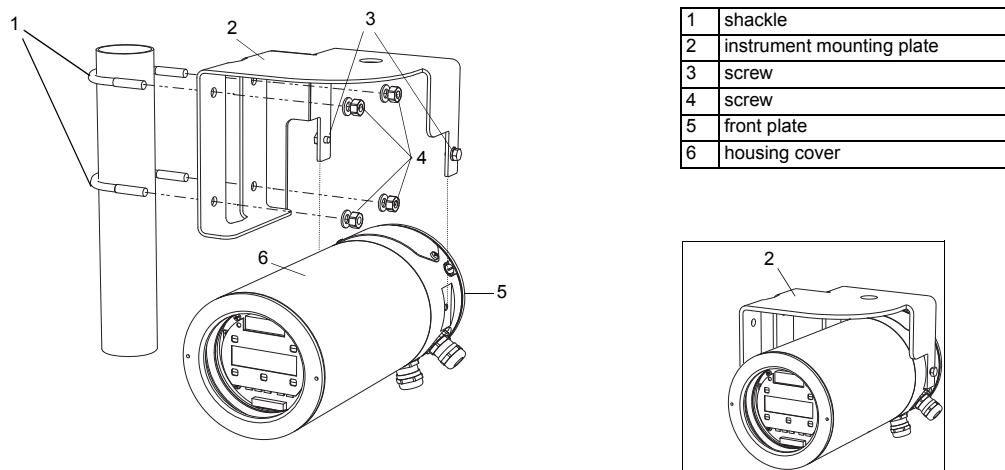

Fig. 8.1: Pipe mounting kit
- Fix the instrument mounting plate (2) to the wall with the 4 screws (4) (see Fig. 8.1).
- Fix the transmitter to the instrument mounting plate (2) with the 2 screws (3).
- Position the shackles (1) at the pipe (see Fig. 8.1).
- Fix the instrument mounting plate (2) to the shackles with the 4 screws (4).